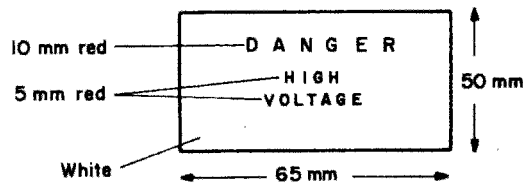

Fig. 10.12
- 5 All control equipment including chokes, capacitors, transformers, etc., must either be totally enclosed in an earthed metalwork container or be placed in a ventilated fireproof enclosure. Also, a notice must be placed and maintained on such a container or enclosure, reading 'DANGER – HIGH VOLTAGE'. The minimum size of letters and notice board is as shown in Fig. 10.12.